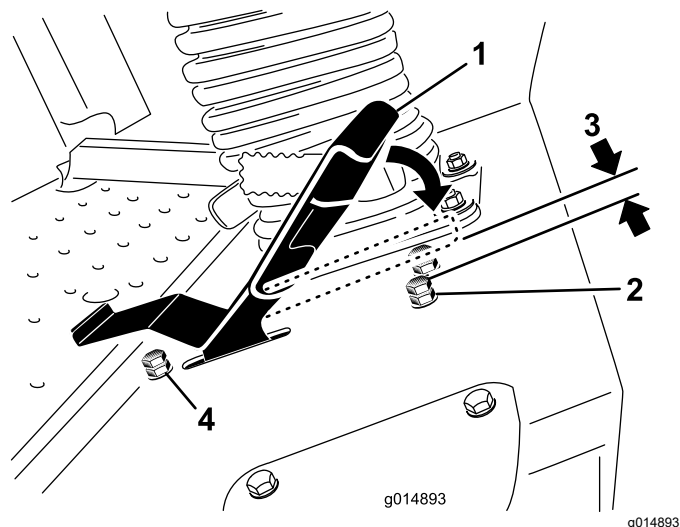

Figure 88
3. Loosen the jam nut on the stop bolt for the traction pedal (Figure 88).